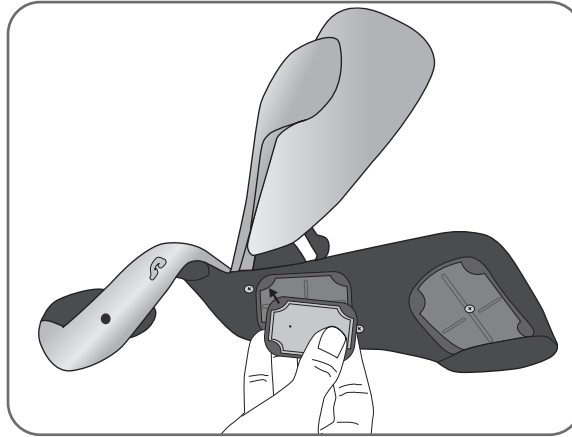

Figure 8-6: Inserting Cloth Electrode into Electrode Base
7. For cloth electrodes #1, 2, 4, and 5, face the white dot on the cloth electrode toward the electrode base. Insert the corners of the cloth electrode into the electrode base. See Figure 8-6.